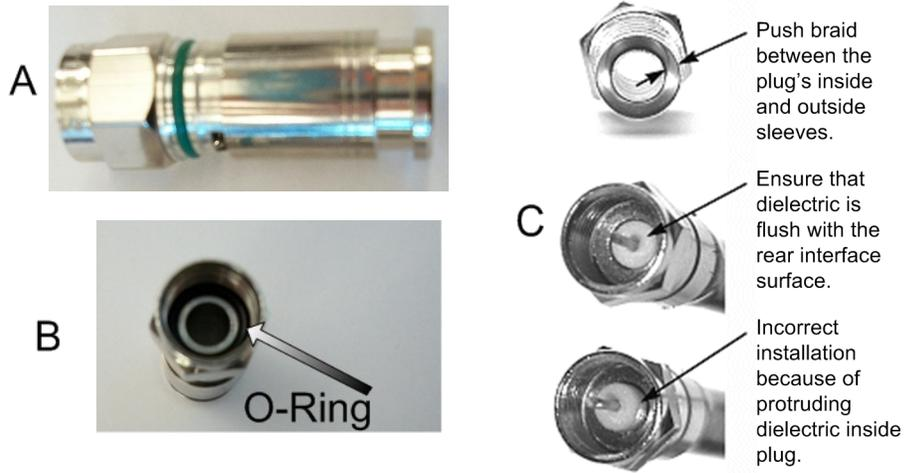

Figure C-4. Attaching the Compression fitting F-type Connector
8. Install the RG-6 connector compression sleeve, or mandrel, (top left (A) in Figure C-4 on page 66) over foil and underneath the braid. A good, weatherproof outdoor connector mandrel should have a visible O-Ring (bottom right (B) Figure C-4 on page 66).
NOTE: The white colored inner dielectric insulation should be flush with the inner rear surface of the connector. Refer to the picture on the right (C) in Figure C-4 on page 66 for an RG-6/RG-11 termination.